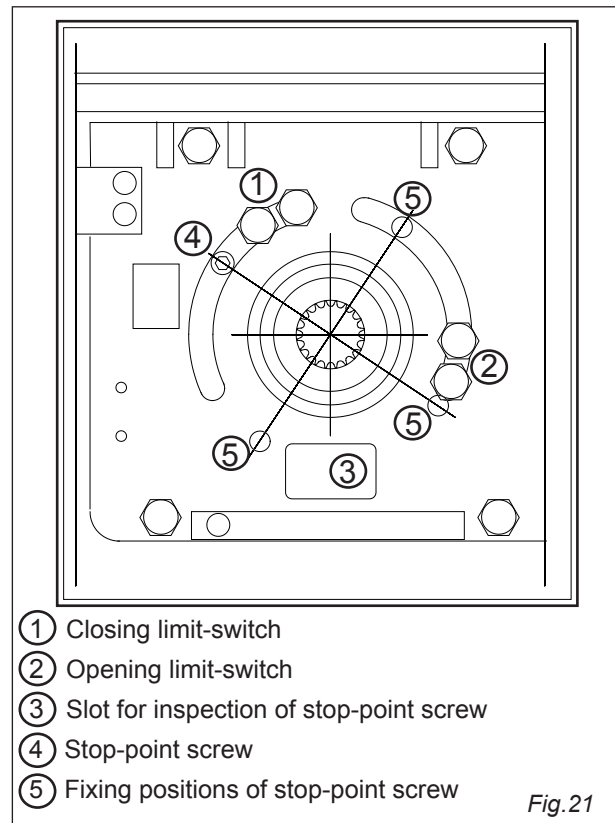

Fig.21
- 2) Rotate the arm until the stop-point screw (fig. 21 ref.4) is in line with the inspection slot (fig. 21 ref. 3) ;
- 4) To increase preloading: rotate the arm in opening direction until the next fixing position of the stop-point screw (fig.21 ref.5) is in line with the inspection slot and fix the screw again.
To reduce preloading: rotate the arm in closing direction until the next fixing position of the stop-point screw (fig.21 ref.5) is in line with the inspection slot and fix the screw again.